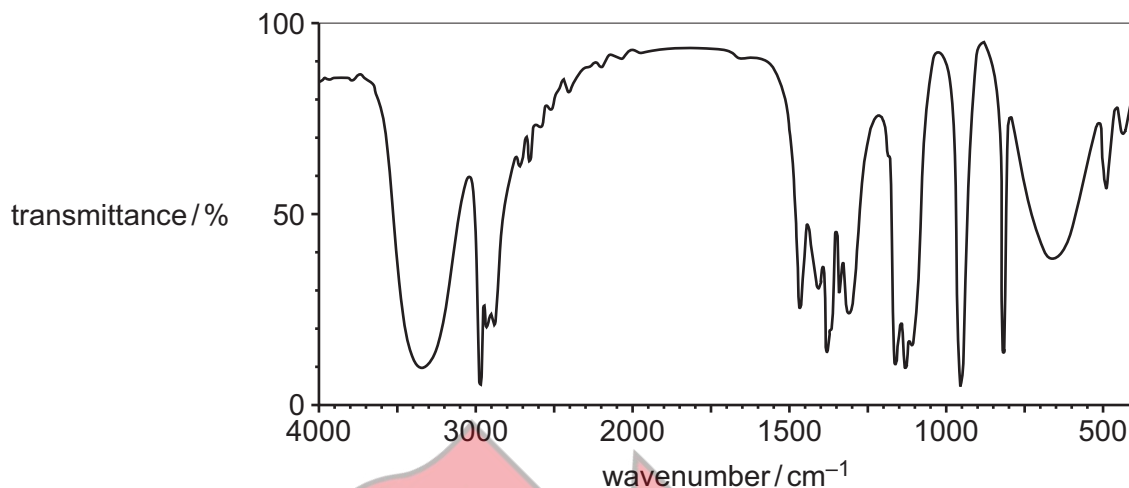

Fig. 2.3
- (e) Fig. 2.3 shows an infrared spectrum of the ROH extracted in (d).
Use Table 2.2 to explain how the infrared spectrum in Fig. 2.3 shows that the ROH extracted does **not** contain any ester **X**.